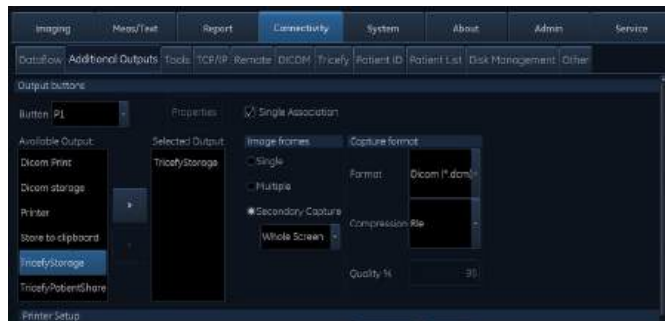

Figure 3-142. The Additional Outputs Sheet
1. The *Additional output sheet* is displayed (see Figure 3-142).